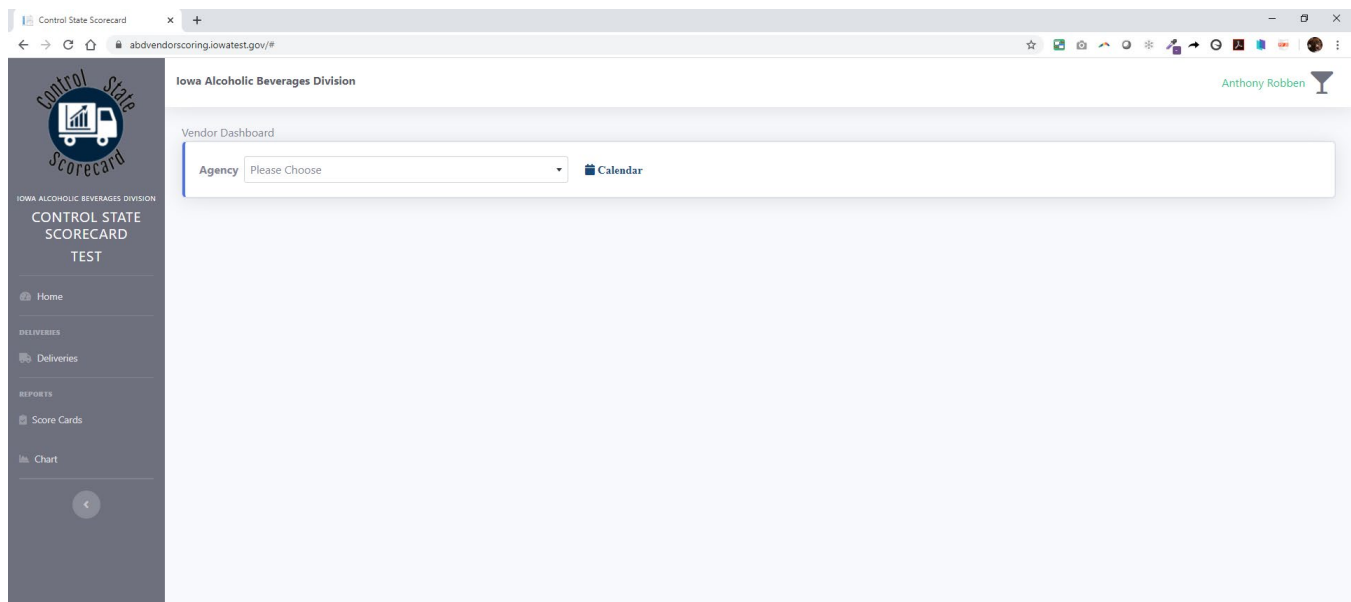

Figure 1; Home
- **Home:** This button returns the user back to the initial login screen. Both the State Agency Receiving Calendar and the State Agency Contact Page are available here (see Figure 1).
- ❖ **State Agency Contact Us:** This is currently under development but will follow the same rational as the State Agency Receiving Calendar function located on the Home tab in Figure 1.